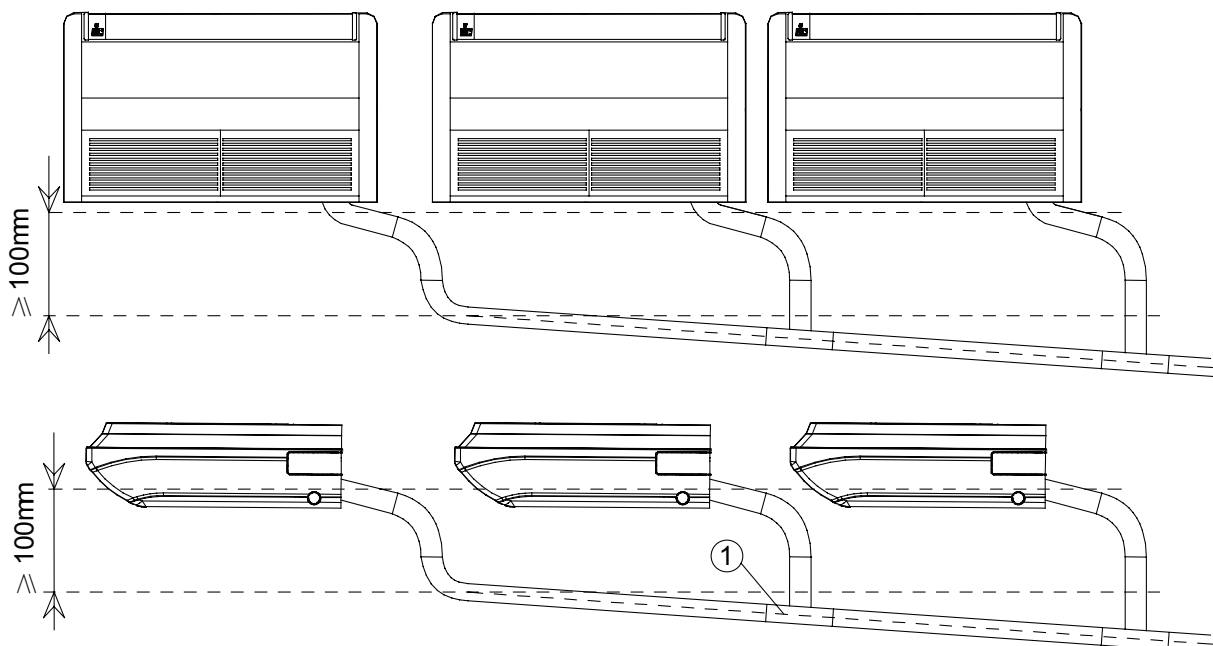

Fig 4.3.2.1
- (1) Drainage pipe should have the same diameter or larger diameter than the connection pipes (PVC pipe, outside diameter 17mm, thickness $\geq$ 1.75mm).
- (2) Keep drainage pipe short and sloping downwards at a gradient of at least 1% for preventing forming air bubbles.
- (3) Insert the drainage hose into drain socket and then tighten the metal clamp securely.
- (4) Warp the sealing pad over drainage hose and metal clamp for heat insulation.
- (5) Make sure to perform insulation work for all drainage hoses in the room in order to prevent any possible water dropping due to dew condensation.
- (6) Apply the suitable diameter for converging drainage pipe according to the operating capacity of the unit, as show in Fig 4.3.2.1.